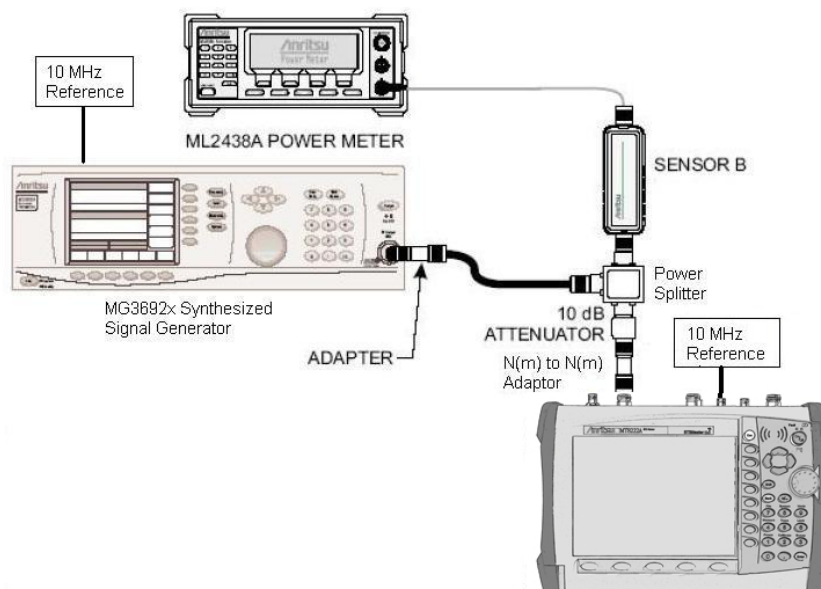

Figure 4-2. Internal Power Meter Accuracy Verification
1. Connect the equipment as shown in Figure 4-2.